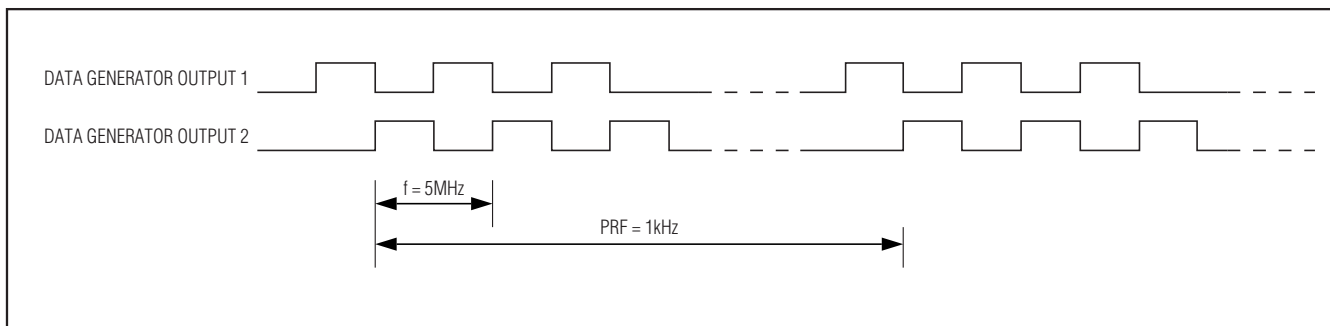

Figure 1. Data Generator Outputs
- 10) Set the data generator to generate two outputs. Each output has three pulses in every pulse repeating period, as shown in Figure 1. Set the pulse amplitude to +3.3V. Disable the outputs.